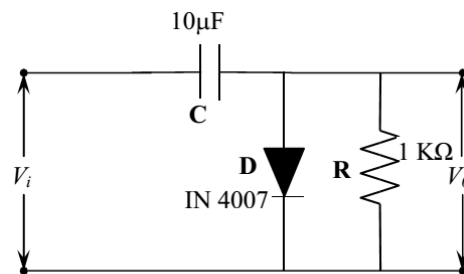

Figure:3
1. Connect the circuit as shown in figure 3.